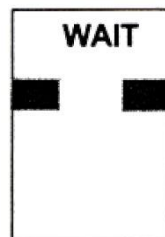

Figure 9
3.9 The aircraft must be identified at least 12m before the correct stop position. If this does not occur, the system displays "STOP" and then "WAIT" with two red, rectangular fields being lit in the azimuth guidance area of the display. The system will then attempt to identify the aircraft. If successful, the docking procedure will continue. If not, "WAIT" will be replaced with "STOP" (see figures 9 and 10).